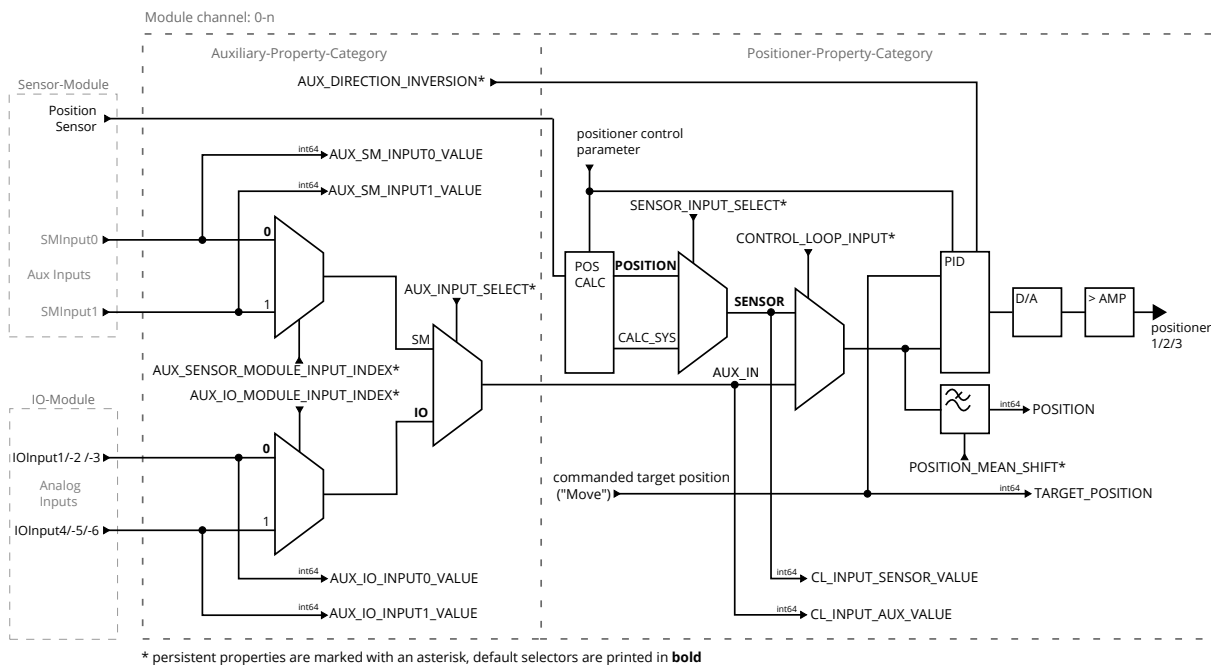

Figure 2.11: Auxiliary Input Configuration (per channel)
- The auxiliary input signal is defined as absolute value, thus it is not possible to define a logical scale offset, e.g. by setting the position with the Position property. Doing so affects the position calculation of an integrated sensor of a positioner (if there is one). Several properties give access to the position of an integrated sensor as well as the auxiliary input values regardless of the actual signal currently used as feedback signal. Refer to figure 2.11 for the different signal paths and properties in this context.